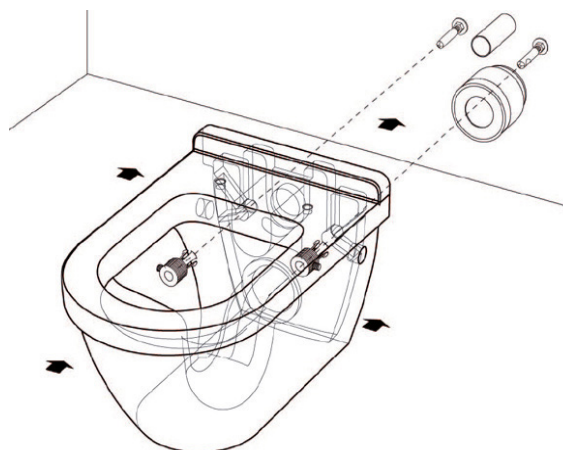

Fig 2
2. Insert fixing plugs into the pan wall fixing holes. Carefully install pan onto brackets and fix into position with allen key provided (fig 2).